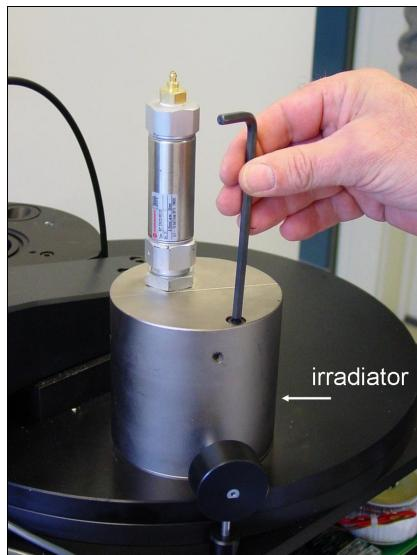

Figure 4.13: Removing the irradiator.
3. Remove the irradiator from the reader by unscrewing the two screws on the top using a 5 mm hexagonal key.(Figure 4.13)